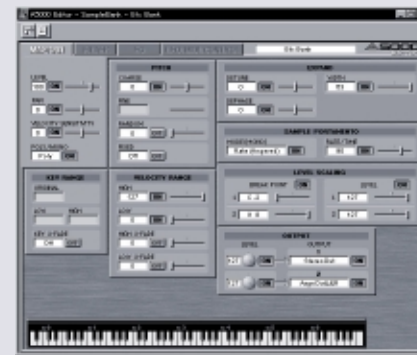

Figure 38
Displays the parameters available for editing with EDIT mode function key 2 (MAP/OUT) (Figure 38).